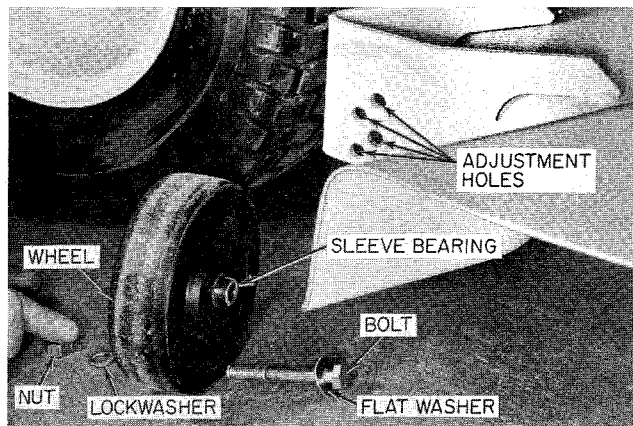

Figure 13
12. Install a wheel assembly in the lowest adjusting hole on each rear corner of the mower. This adjustment gives maximum cutting height for initial mowing passes. A 3/8-inch plain washer should be located between the bolt head and the wheel. Insert a sleeve bearing in each wheel. Secure each with a 3/8-inch lockwasher and nut. (See Figure 13.)